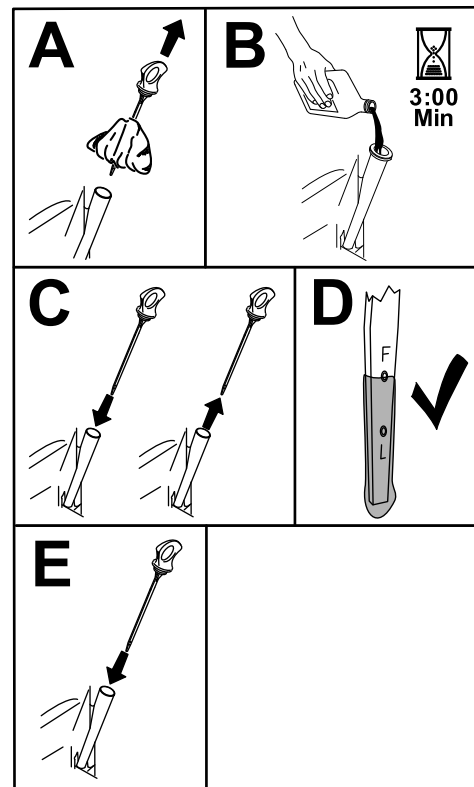

Figure 49
5. Slowly pour approximately 80% of the specified oil into the filler tube and slowly add the additional oil to bring it to the Full mark (Figure 49).